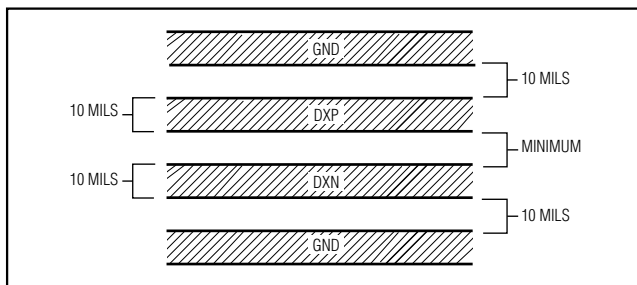

Figure 4. Recommended DXP-DXN PC Traces
- 3) Route the DXP and DXN traces in parallel and in close proximity to each other, away from any higher voltage traces, such as 12VDC. Leakage currents from PC board contamination must be dealt with carefully since a 20MΩ leakage path from DXP to ground causes about 1°C error. If high-voltage traces are unavoidable, connect guard traces to GND on either side of the DXP-DXN traces (Figure 4).
6) Use wide traces. Narrow traces are more inductive and tend to pick up radiated noise. The 10mil widths and spacing recommended in Figure 4 are not absolutely necessary, as they offer only a minor improvement in leakage and noise over narrow traces. Use wider traces when practical.